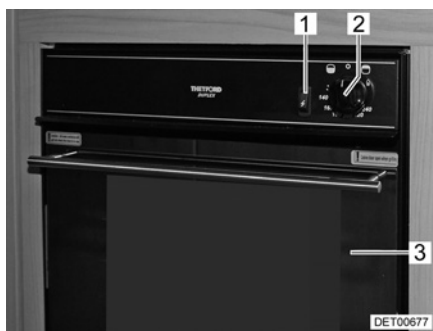
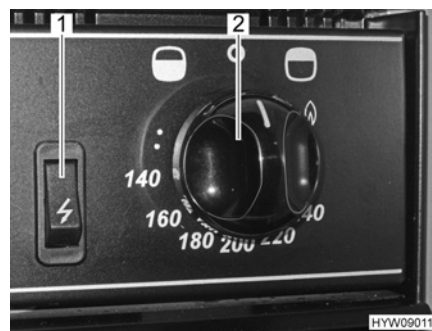

Fig. 92 Gas oven with grill
Fig. 93 Operating controls (gas oven with grill)
- Fully open the oven flap (Fig. 92,3).
- Press the control knob (Fig. 92,2 and Fig. 93,2) and set it to the maximum setting anticlockwise (towards the oven symbol "🔥").
- Press the control knob (Fig. 92,2 and Fig. 93,2) and hold it down for 5 to 10 seconds. Gas will stream into the burner.
- Keep the ignition switch (Fig. 92,1 and Fig. 93,1) pressed until the flame burns.
- Press the control knob (Fig. 92,2 and Fig. 93,2) and turn it clockwise (towards the grill symbol "🔥") in the direction of the flame symbol.
- Turn the control knob (Fig. 92,2 and Fig. 93,2) to "0". The flame fades.